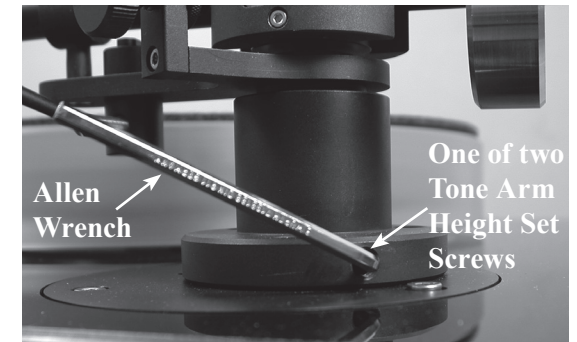

Figure 31
- With the Tone Arm secured in the Tone Arm Rest, carefully loosen the two set screws while supporting the rear of the Tone Arm. Reposition the Tone Arm based on findings in the previous step. Temporarily tighten one of the set screws. Refer to figure 31.